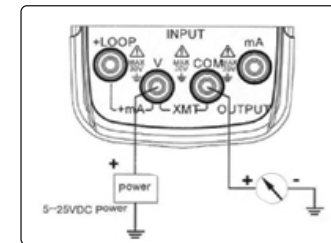

Figure 5-2
- 1) Insert one end of the test lead to the 'XMT' output jack of the Instrument and connect the other end with the input terminal of the user's device as shown in the Figure 5-2;